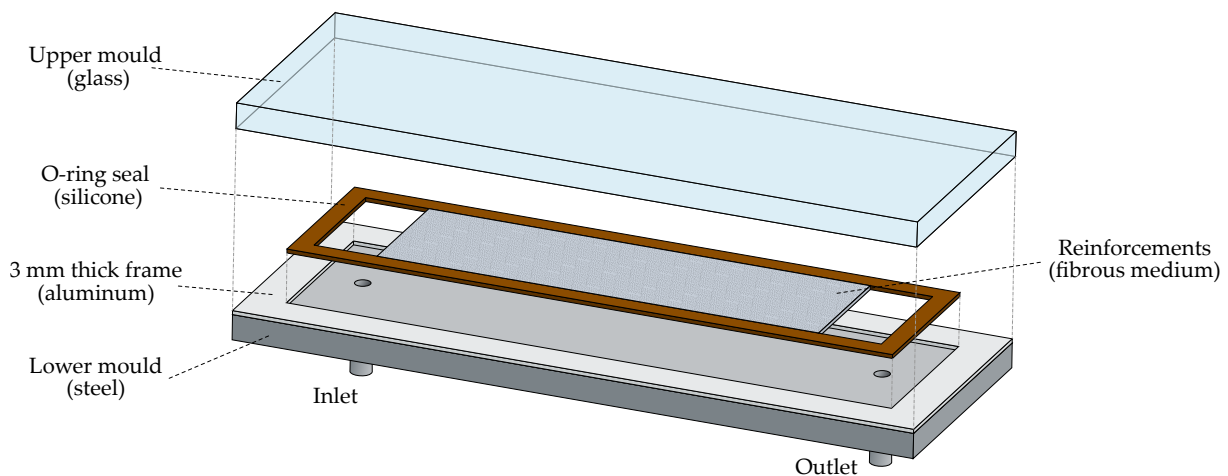

FIGURE 1: Schematic of the mould setup
- Place the metallic frame, the silicon O-ring seal and the fabric according to Figure 1.